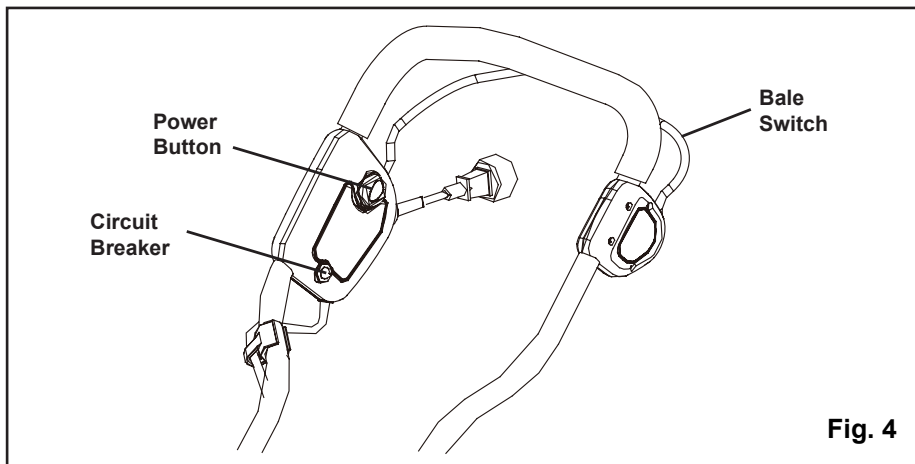

Fig. 4
STARTING AND STOPPING THE DETHATCHER *(See Figure 4)*
CIRCUIT BREAKER *(See Figure 4)*
- Press the circuit breaker in order to reset it. Resume operation *(See Figure 4.)*